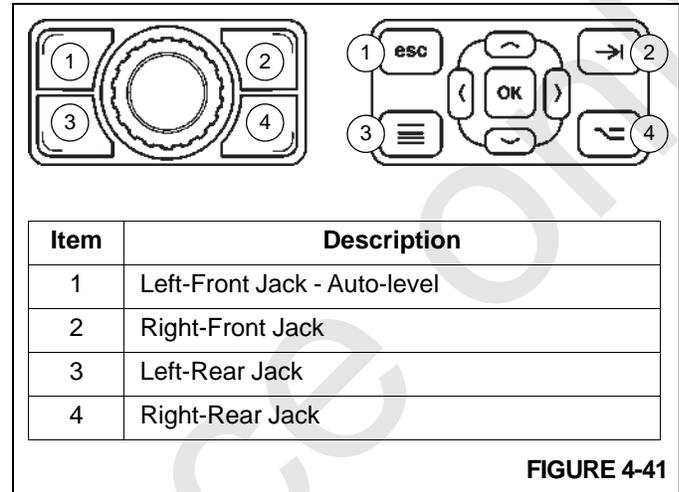

FIGURE 4-41
4. To begin the auto-level function, position the Outrigger Extend/Retract Switch (17, Figure 3-9) on the left armrest to the extend or retract position, then press and hold the button (1, Figure 4-41) at the Jog Dial or Navigation Control Pad that corresponds to the Auto-level Button on the screen.
5. Release the Outrigger Extend/Retract Switch and the button (1, Figure 4-41) at the Jog Dial or Navigation Control Pad.